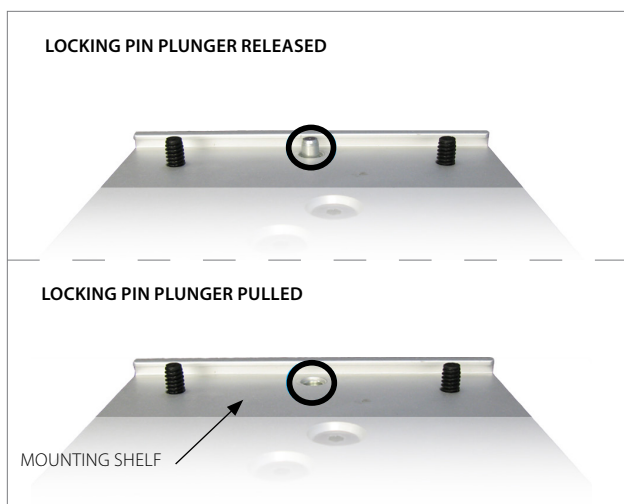

Figure 2
2. Loosen the **4x PLASTIC SCREWS** on the bottom side of the **MOUNTING SHELF**. Pull down on the **LOCKING PIN** at the bottom of the **MOUNTING SHELF** and twist it to keep it open. Slide the **PHILIPS X3/MX100 MOUNTING PLATE** laterally onto the **MOUNTING SHELF** until the **LOCKING PIN** aligns with the clearance hole at the front of the **MX100 MOUNTING PLATE** (Figure 2).